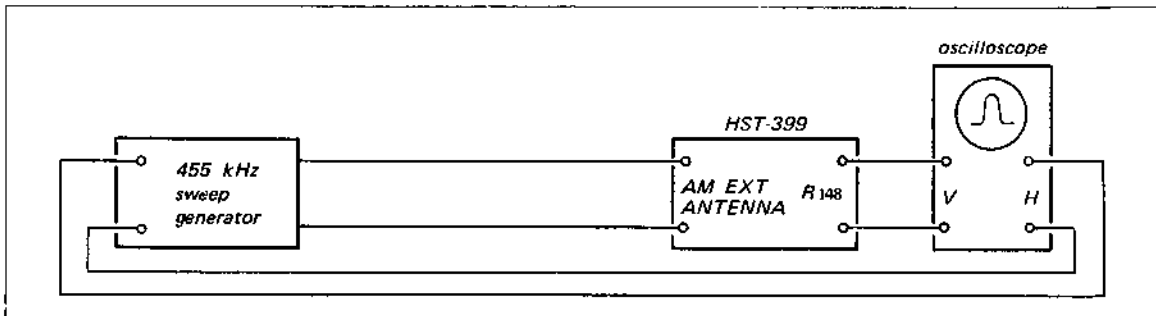

Fig. 3-20 A-m i-f alignment test setup, sweep generator alignment
1. With the equipment connected as shown in Fig. 3-20, set the sweep generator's controls as follows: